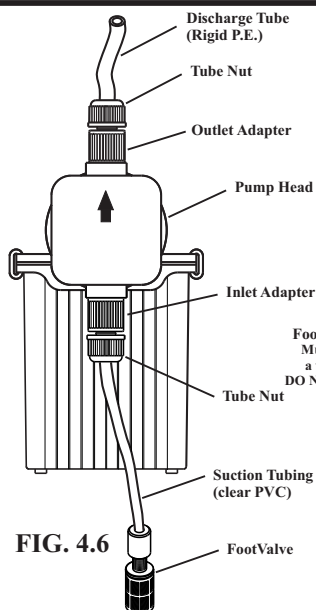

FIG. 4.6
**4.3.1 Inlet Tubing** - Locate the inlet fitting of the pump head, see fig 4.6. Remove the tube nut. Push the clear PVC suction tubing onto the compression barb of the fitting. Use the tube nut to secure the tube. Hand tighten only.
**4.3.3 Outlet Tubing** - Locate the outlet fitting of the pump head, see fig 4.6. Remove the tube nut. Push the opaque outlet (discharge) tubing onto the compression barb of the fitting. Use the tube nut to secure the tube. Hand tighten only.